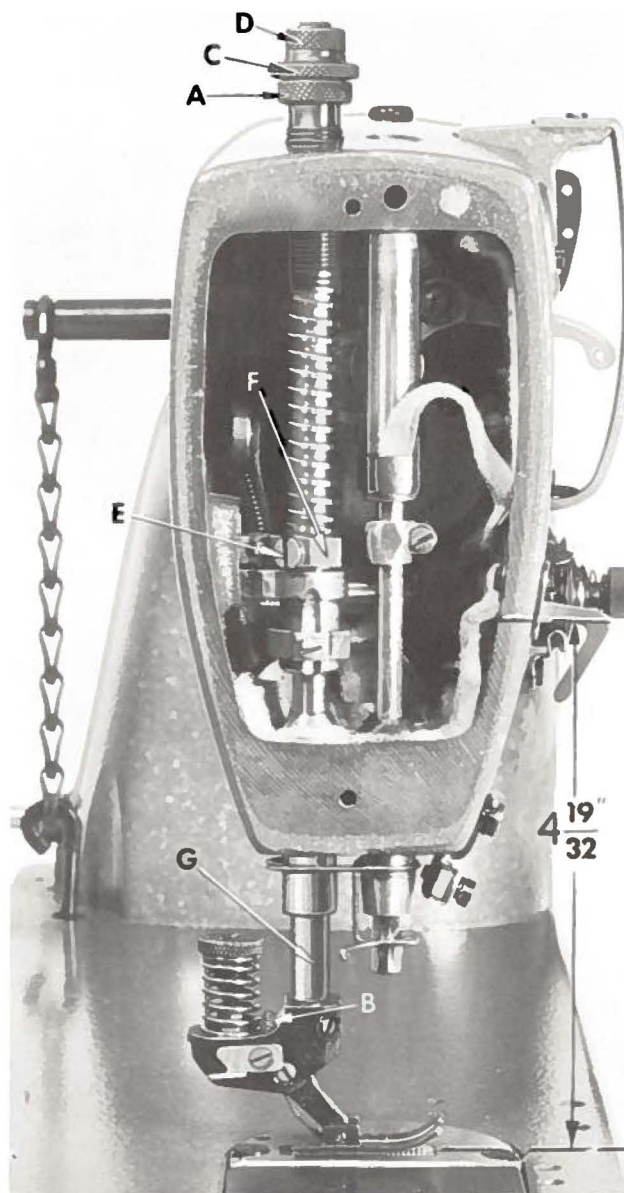

Fig. 16A
Adjust the presser spring regulator (A, Fig. 16A) so that approximately three (3) threads are visible above the bed casting.
Back off stop screw (B) in feeding presser foot. With the presser foot resting flat on the throat plate and feed dog down, adjust stop nut (C, Fig. 16A) until the adjusting lines on the presser foot bottom, line up with the centerline of the needle. Tighten lock nut (D).
Loosen screw (E, Fig. 16A) in presser bar guide (F), while holding down on presser bar (G), depress presser foot lifter lever and retighten screw (E). Release lifter lever.
Set needle thread pull-up bracket $4 \frac{19}{32}$ inch from bottom (underside) of bracket to top of cloth plate (See Fig. 16A).